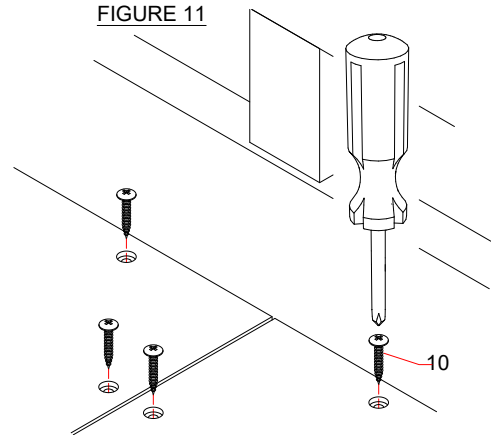

FIGURE 12
12. Hook the ladder (I) on the footboard then secure it with screws (11), as per illustration in FIGURE 12 and FIGURE 13.